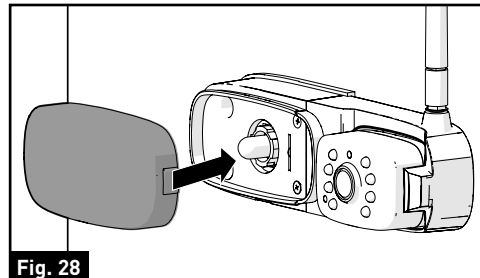
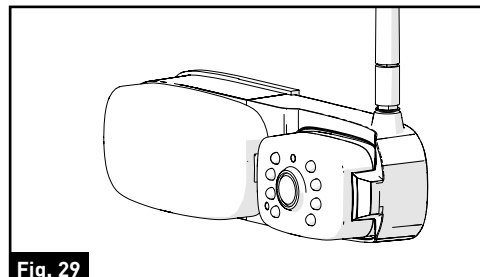

Fig. 28
Fig. 29
7. Replace the lens cover over the traffic light base and press until a "click" is heard. The camera is now fully installed onto the vehicle. (Fig. 28 and Fig. 29)